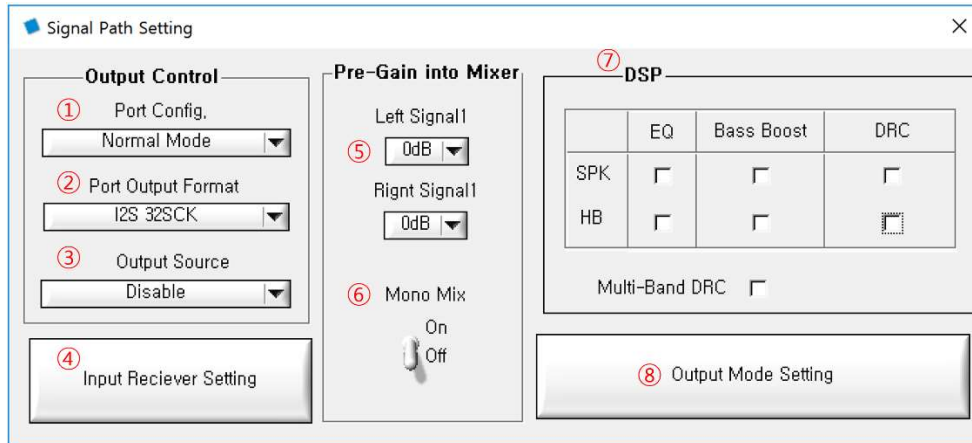

Figure 20. Signal Path Setting
- Port Select: (See Figure 20. Signal Path Setting)